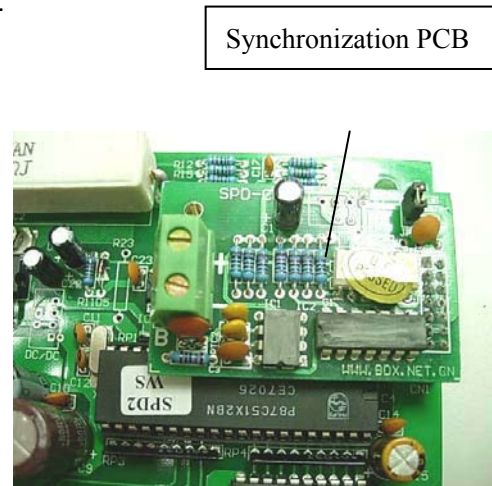

Fig.4
3. Plug the Synchronization PCB on CNI (14P) of the main PCB. (Fig.4)